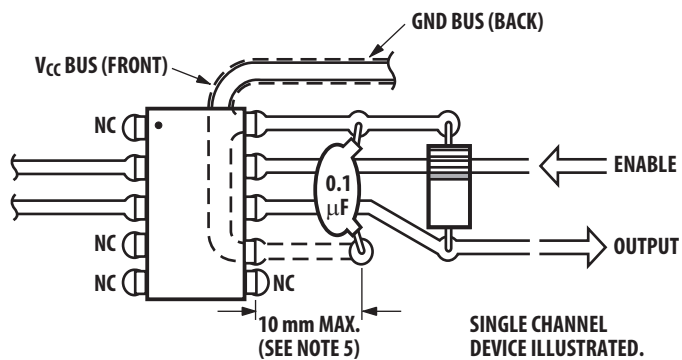

Figure 15. Recommended printed circuit board layout.
- By passing of power supply line is required, with a $0.1\mu\text{F}$ ceramic disc capacitor adjacent to each optocoupler as illustrated in Figure 15. Total lead length between both ends of the capacitor and the isolator pins should not exceed 20mm.